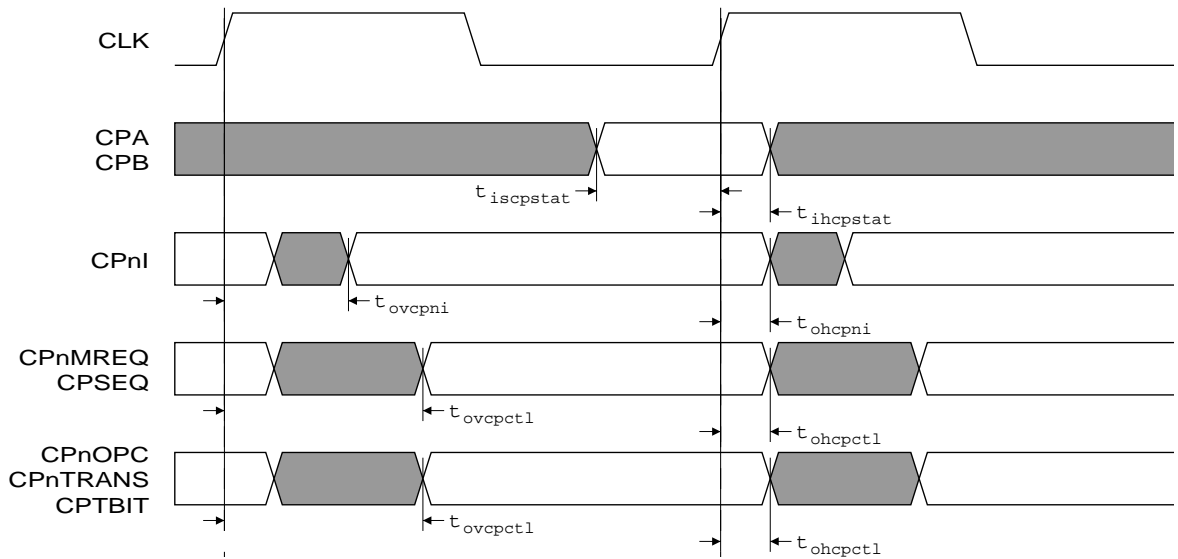

Figure 7-2 Coprocessor timing
- *Figure 7-2 Coprocessor timing*